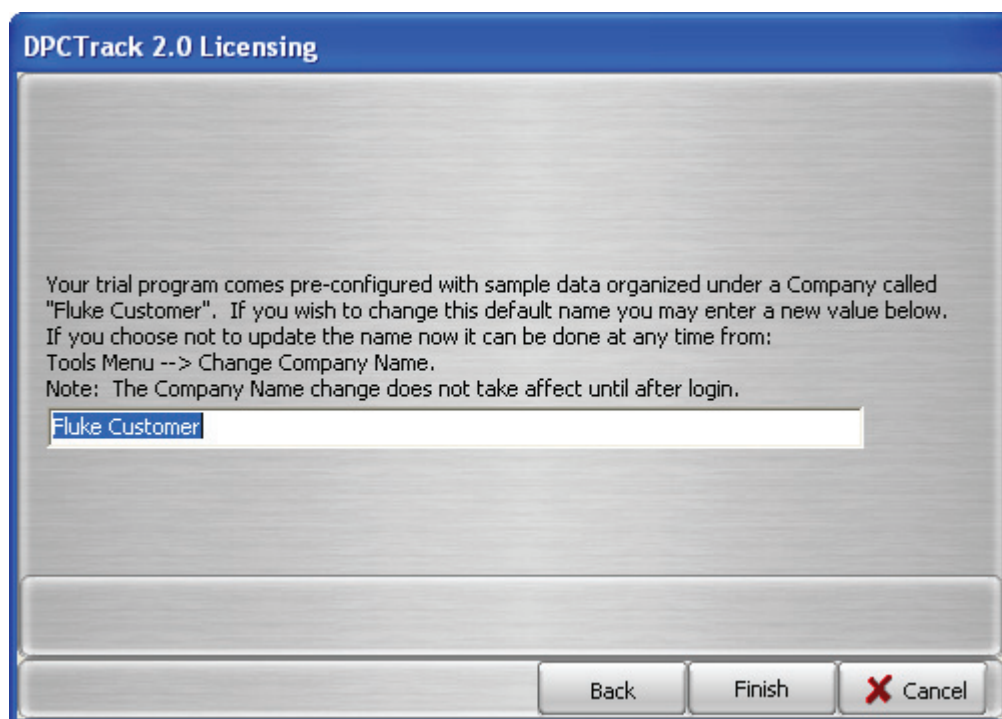

Figure 2.2
**Start Trial:** This will allow you to enter DPCTrack2 for the first 60 days of use without further action. After 60 days, all features of the DPCTrack2 System except those to Upload, Download & View the Logs will be restricted. Your trial program comes pre-configured with sample data organized under a company called "Fluke Customer". If you wish to change this default name you may do so when you start your trial. See Figure 2.2